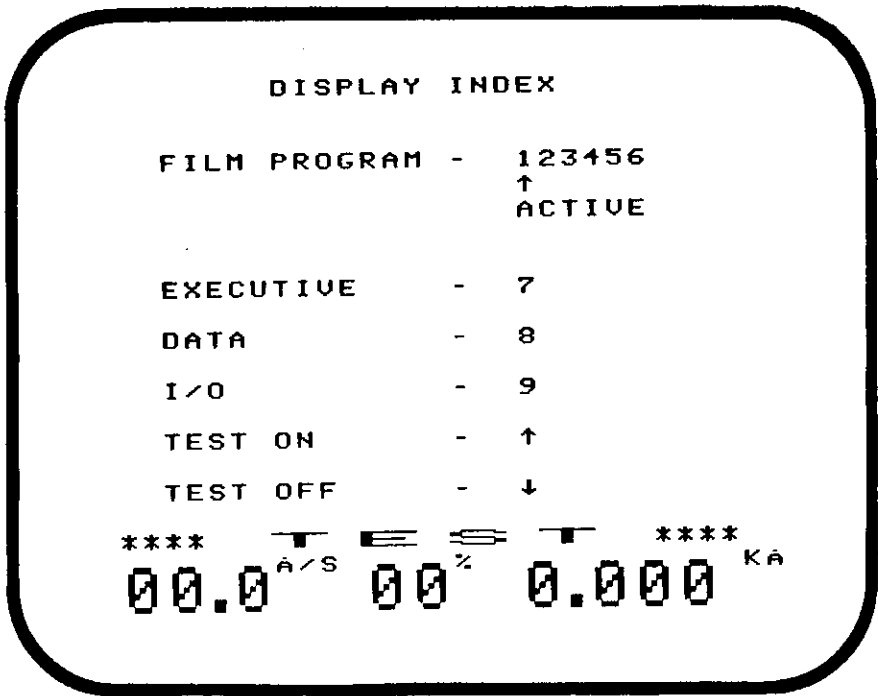

Fig. 2-2 Initial Display Index
## Display Index (Fig. 2-2)
3. After a 10-15 second warm-up, check to see that the Display Index appears (Fig. 2-2).